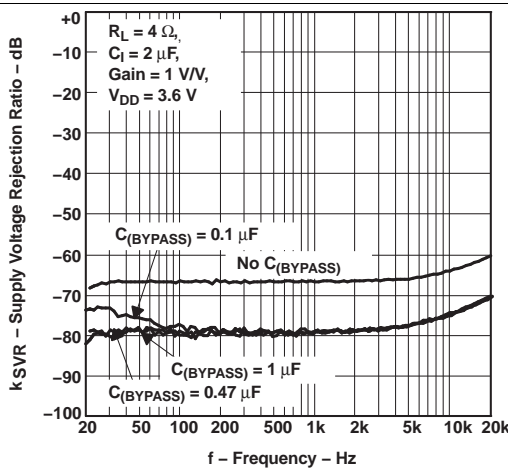

Figure 17. Supply Voltage Rejection Ratio vs Frequency
- **Mid-supply bypass capacitor,  $C_{(BYPASS)}$ , not required:** The fully differential amplifier does not require a bypass capacitor. Any shift in the mid-supply voltage affects both positive and negative channels equally, thus canceling at the differential output. Removing the bypass capacitor slightly worsens power supply rejection ratio ( $k_{SVR}$ ), but a slight decrease of  $k_{SVR}$  may be acceptable when an additional component can be eliminated (See Figure 17).